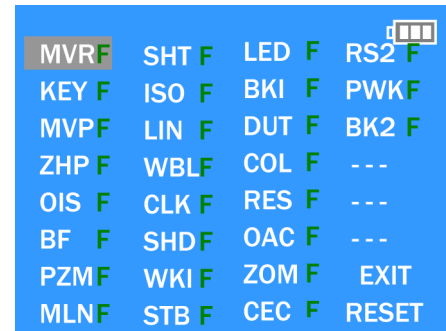

Fig.3-2
1. After pressing the [DISP.] button, the LCD monitor displays the Flag status screen (Refer to Fig.3-2)